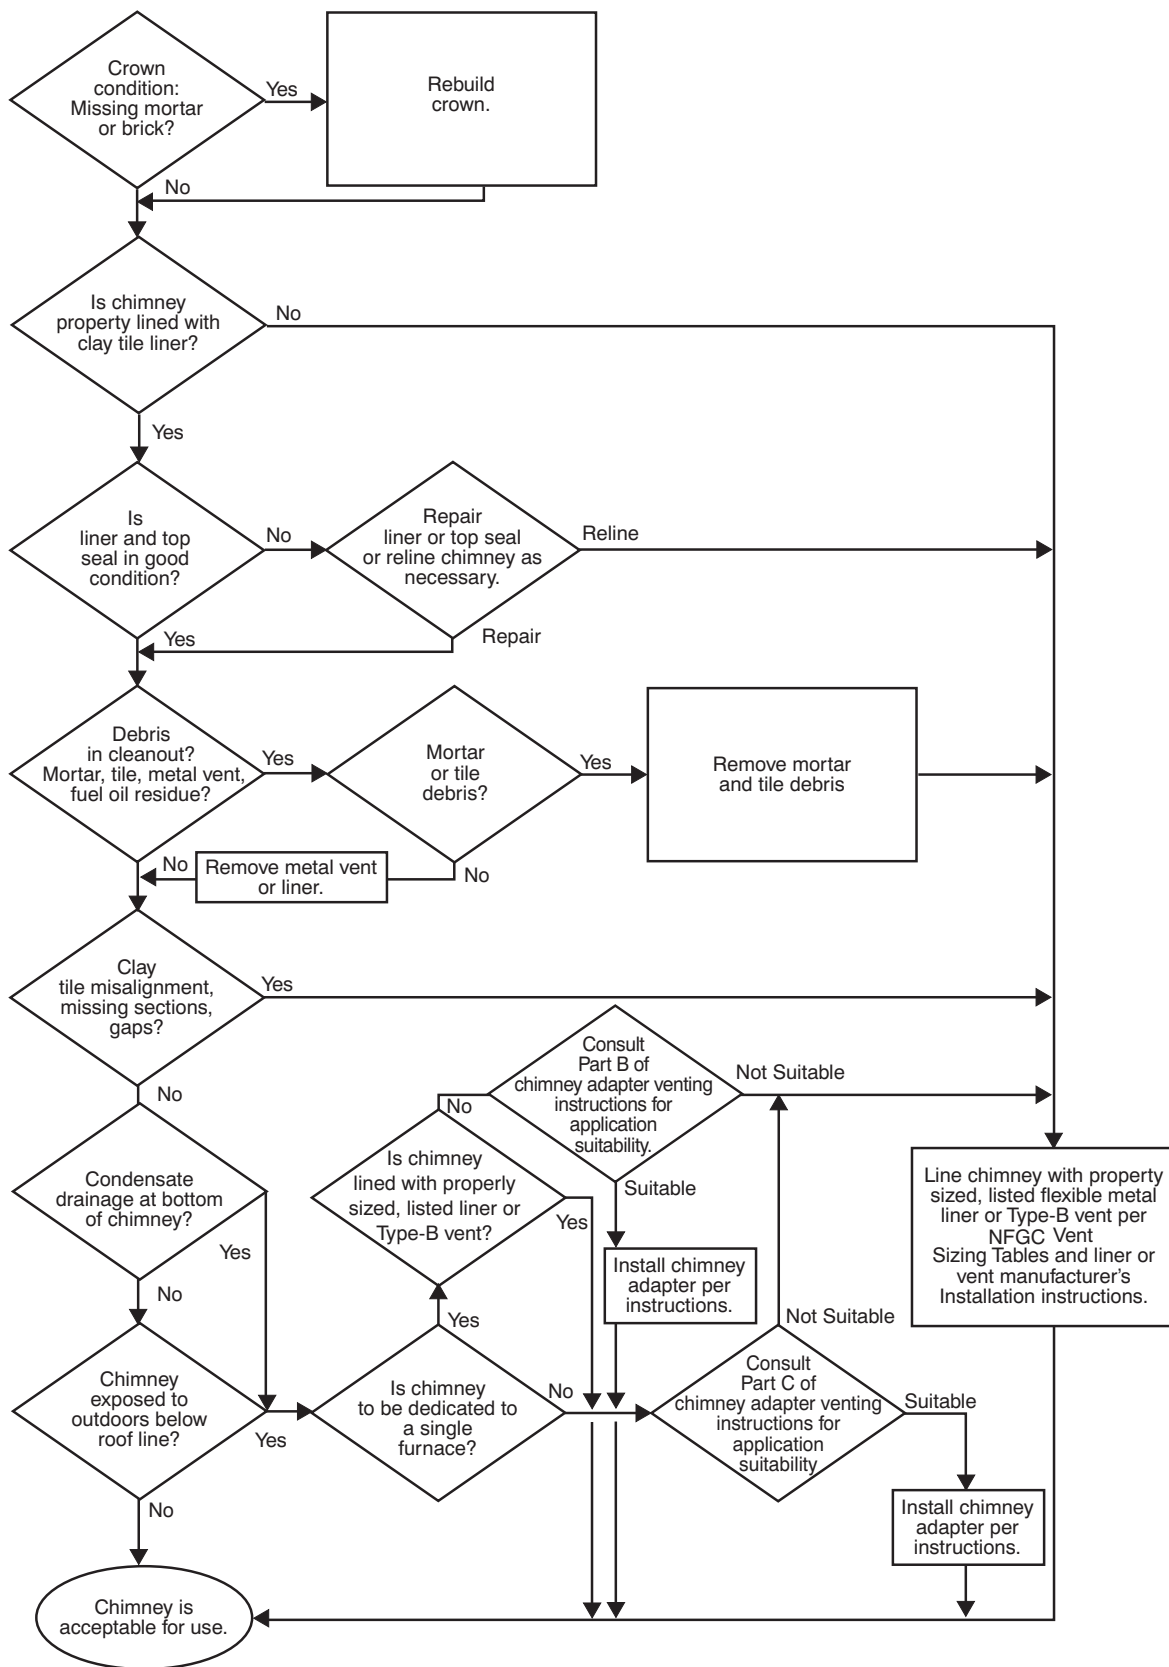

Fig. 27 - Chimney Inspection Chart
6. Do not vent this appliance into an unlined masonry chimney. Refer to Chimney Inspection Chart, Fig. 27.
Inspections before the sale and at the time of installation will determine the acceptability of the chimney or the need for repair and/or (re)lining. Refer to the Fig. 27 to perform a chimney inspection. If the inspection of a previously used tile-lined chimney: